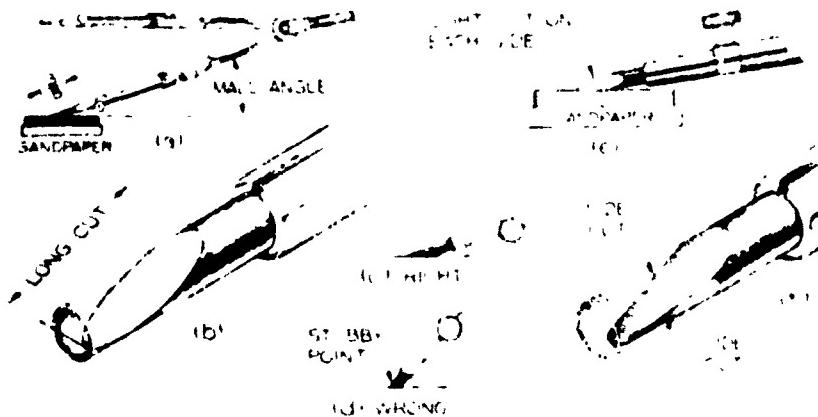

FIGURE 2
1. Extend the lead approximately  $1/2"$  out of the compass and place it at a  $30^{\circ}$  angle on the sandpaper pad (Figure 2)
2. Move the compass lead back and forth over the sandpaper until it forms a smooth, wedge shaped point on a long cut (Figure 2)
3. Turn the compass lead to each side at a  $30^{\circ}$  angle on the sandpaper and make smooth side cuts slightly shorter than the long cut on the wedge (Figure 2)